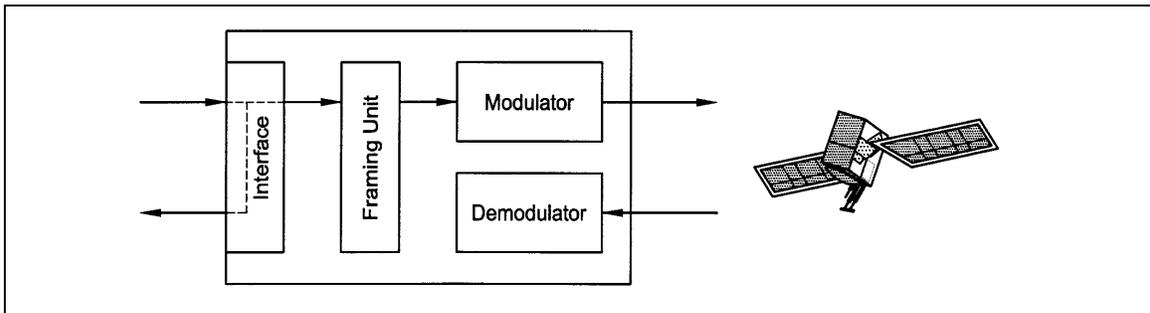

Figure 3-3. Tx Terrestrial Loopback
**Tx Loopback** – Terrestrial TX data after passing through the line interface is looped back to the Rx data line drivers (refer to Figure 3-3).